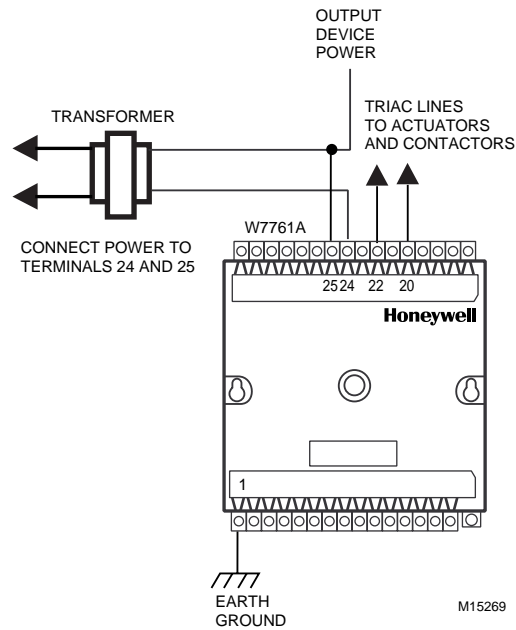
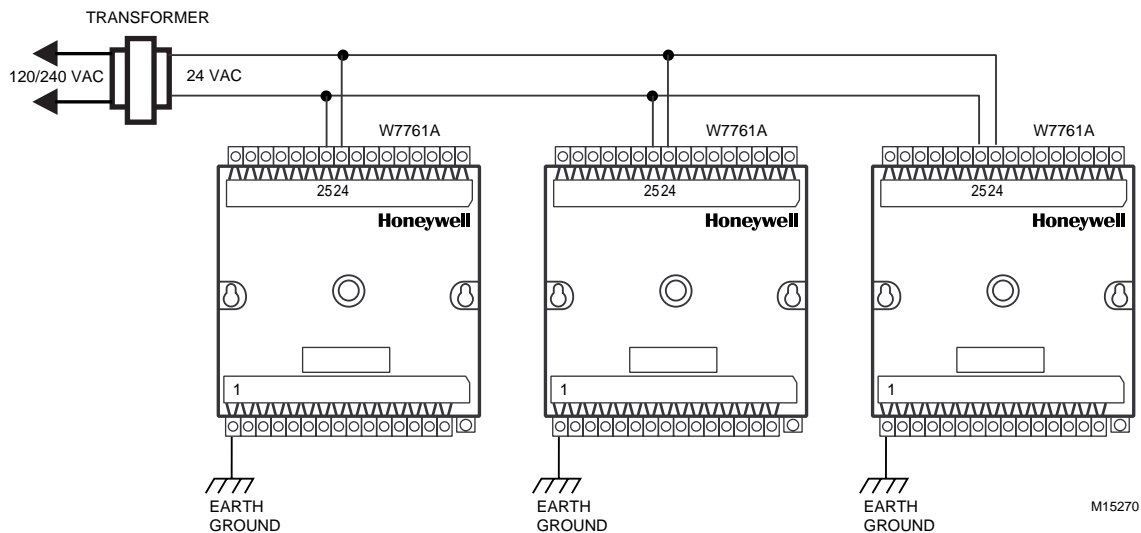

Fig. 4. Power wiring details for one Excel 10 per transformer.
Fig. 5. Power wiring details for two or more Excel 10s per transformer.
- For multiple devices operating from a single transformer, the same side of the transformer secondary must be connected to the same power input terminal in each device. The ground terminal (1 on the W7761A) must be connected to a verified earth ground for each device in the group, see Fig. 5. (Device configurations are not necessarily limited to three devices, but the total power draw including accessories cannot exceed 100 VA when powered by the same transformer (U.S. only). See System Engineering form 74-2699 for power wiring recommendations.
The 24 Vac power from an energy limited Class II Power Source must be provided to each W7761A Device. To conform to Class II restrictions, transformers must not be larger than 100 VA (U.S. only). A transformer that meets CE mark requirements and that meets the Low Voltage Directive (LVD) requirements must be used in Europe for all installations of this product. More than one W7761A can be powered by a single transformer. Fig. 4 shows power wiring details for a single device and Fig. 5 depicts multiple devices using one transformer.
- 24 Vac power connections. Verify that multiple devices powered by the same transformer are wired to the transformer secondary connected to the same input terminal numbers on each W7761A. See Fig. 5. (Device configurations are not necessarily limited to three devices, but the total power draw including accessories
- Device wiring. Be sure that each device is wired (terminal 1) on the W7761A to a verified earth ground using a wire run as short as possible with the heaviest gauge wire available, up to 14 AWG (2.0 mm²) with a minimum of 18 AWG (1.0 mm²) for each device in the group. See Fig. 4.